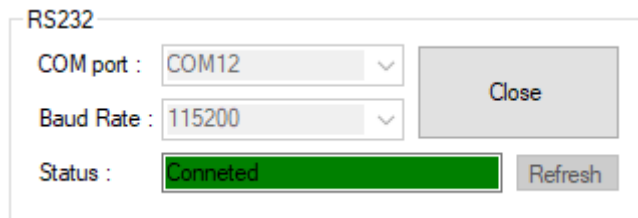
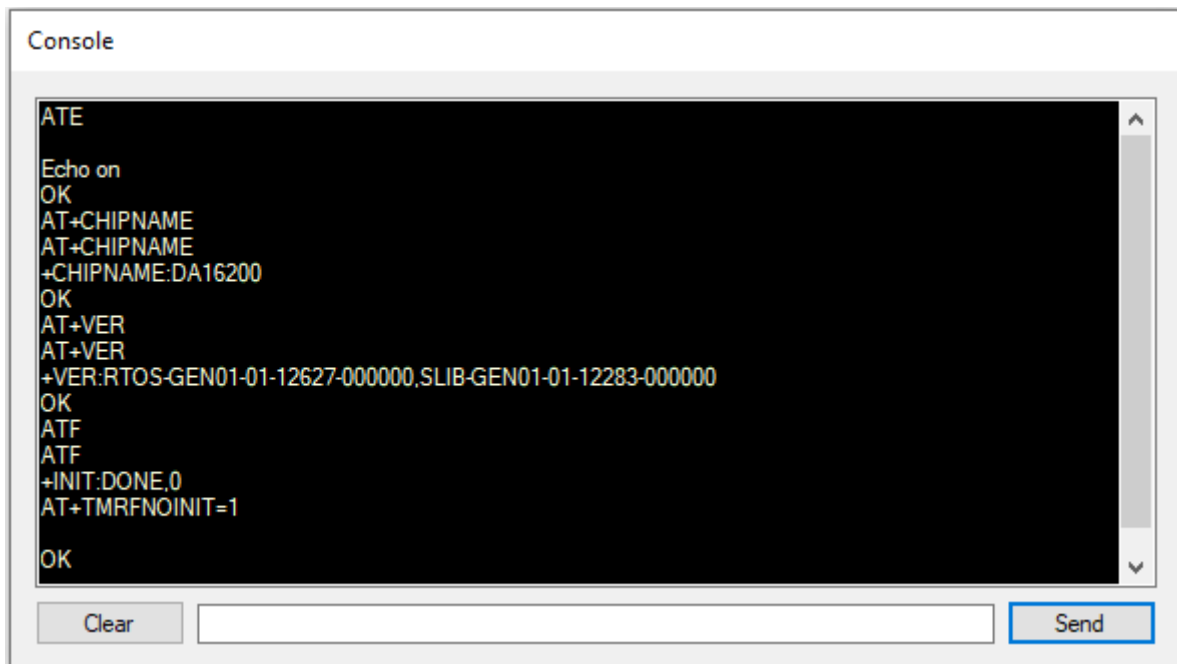

Figure 5: RS232 Setup – Connected
Figure 6: Debug Console – Connected
- Select a COM port and click the **OPEN** button and wait for a few seconds. See Figure 5 and Figure 6.